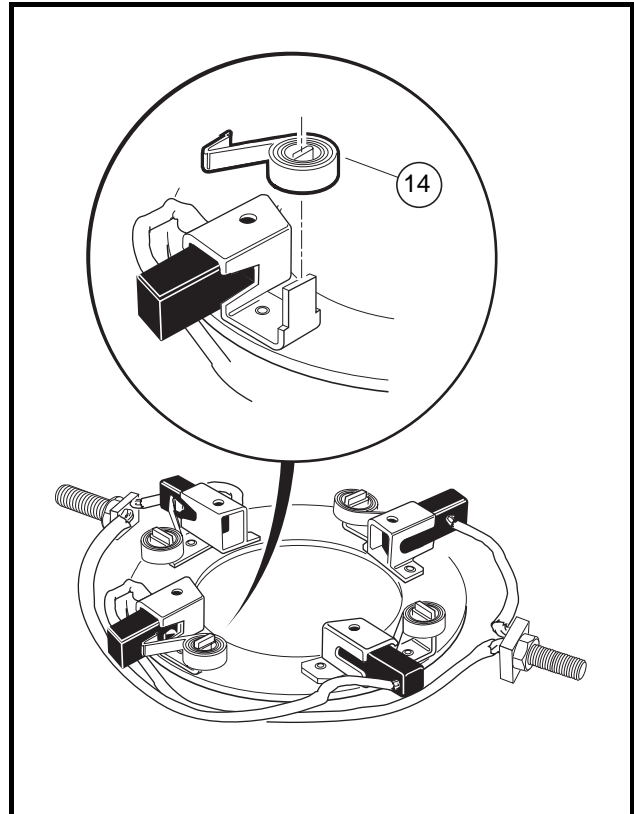

Figure 16-6 Brush Spring Removal
- To remove brush springs (14) from the rigging, lift the spring extensions out and over the brush mounts and then slide the springs off their mounting tabs (**Figure 16-6, Page 16-5**).
- 2.2. One at a time, push brush spring extensions back from brushes and slide the brushes back until they are completely retracted into their mounting slots. Then position the brush springs against the sides of the brushes so that spring pressure will hold them in the retracted position (**Figure 16-6, Page 16-5**).